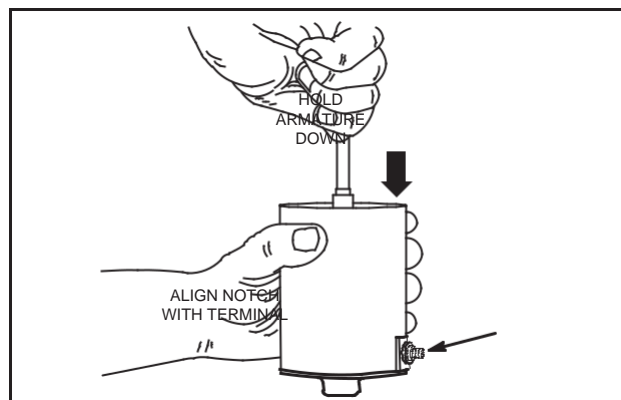

Fig. 16 - Install Starter Housing
4. Slide housing over armature, aligning notch in housing with terminal on brush retainer, Fig. 16.